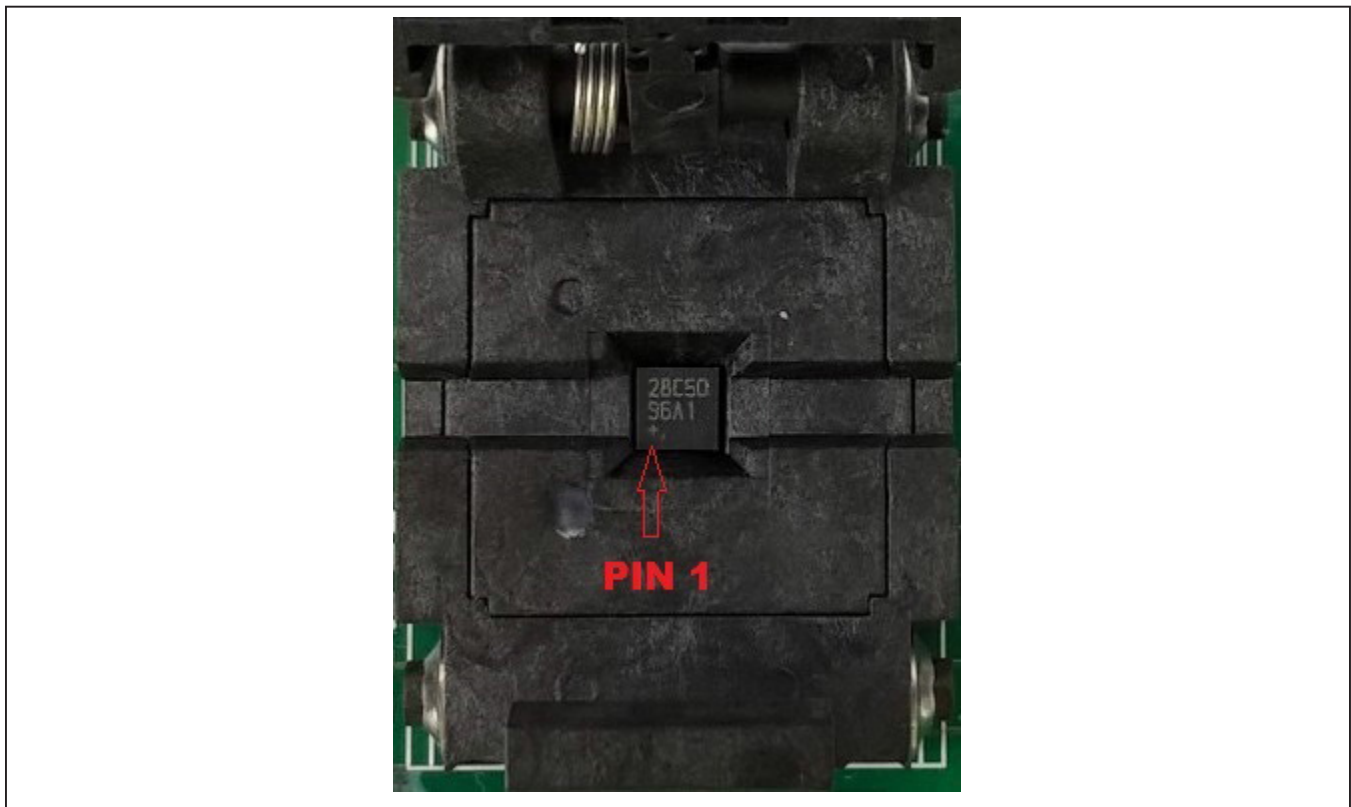

Figure 7. DS28C50 and DS2477 Orientation in Burn-In Socket
- (Optional—Perform only if using the coprocessor): Open the 1st socket and insert a DS2477 into one of the cavities, as shown in Figure 7.
- Open the 2nd socket and insert a DS28C50 into the cavity, per the same orientation shown in Figure 7, with the plus (+) oriented in the bottom left corner of the socket.